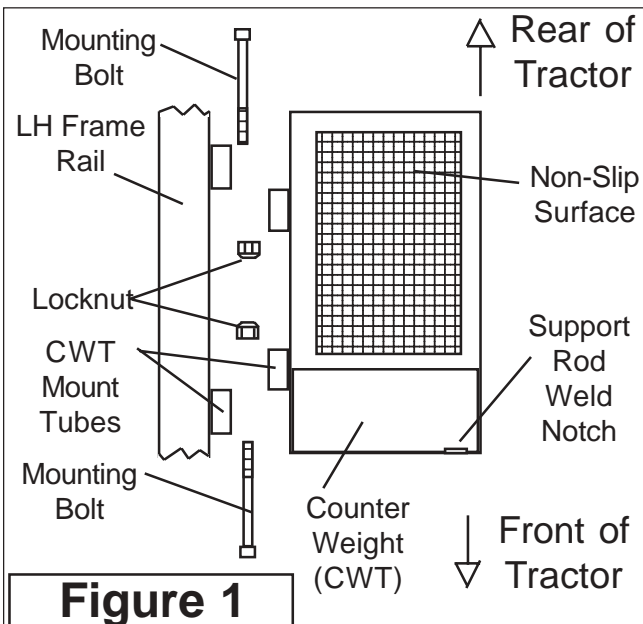

Figure 1
1. Counter Weight (CWT) Installation. The Counter weight (**See Figure 1 & 2**) mounts on the LH side Frame Rail with a Support Rod running up to a Bracket that welds to the High Frame. The Bottom Step will have to be removed before counter weight can be installed. The Bolts must be installed as shown with the Locknuts to the inside. Installing the Bolts this way will make them easier to tighten up (**See Figure 1 & 3**). Install both bolts as shown (**See Figure 28**). Snug the Bolts, don't tighten them yet.